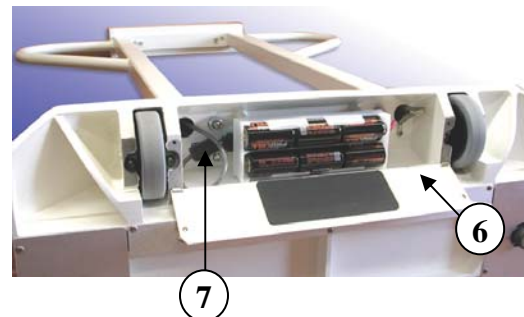

Figure 2: Battery Compartment Cover
STEP 4: Insert the four 3/8" Flats Socket Head Cap Screws (5) provided, to attach the Mast Assembly to the Base Assembly.
STEP 5: Gently position the scale system on its side. Loosen the battery compartment cover screws to open the Battery Compartment Cover (6) (Figure 2).